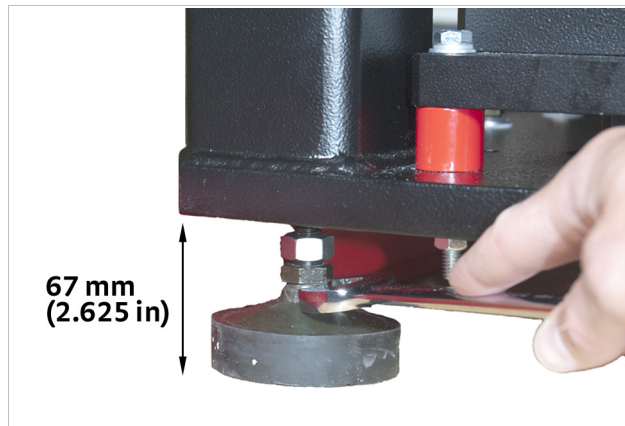

FIGURE 3-7 Lowering the probe station foot
- a. Using a  $\frac{3}{4}$  in or adjustable wrench, lower the four feet of the probe station outer stand (FIGURE 3-7).
- b. Lower each of the four probe station outer stand feet until the bottom of the probe station stand is approximately 67 mm (2.625 in) from the floor. This will take the weight of the probe station off of the long red cross braces. For uneven flooring, it is acceptable if the bottom of the feet are lowered up to 85 mm below the bottom of the stand (FIGURE 3-7).